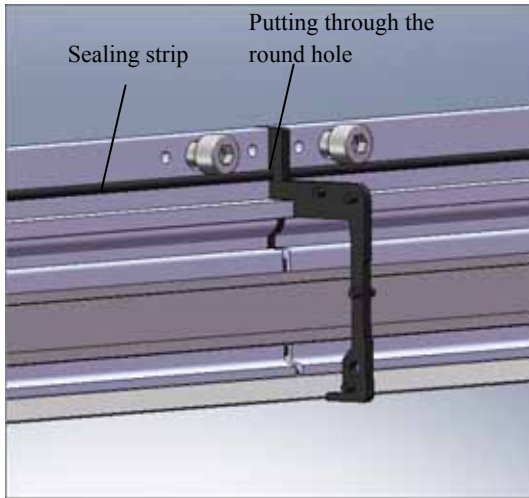

Fig. 5.13 Installation of sealing strip
**(8) Installation of  $\Phi 2$  sealing strip:** To install the strip, put the sealing strip through the round rubber hole as shown in Fig. 5.13.